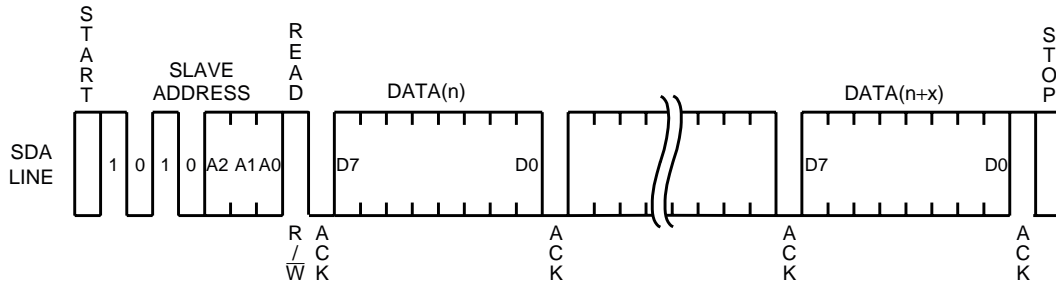

Fig.16
(See Fig.16 to 18 for the sequential read cycles.)
- When an ACK signal LOW is detected after D0 and a stop condition is not sent from the master ( $\mu$ -COM), the next word address data can be read. [All words all read enabled] (See Fig.16 to 18 for the sequential read cycles.)